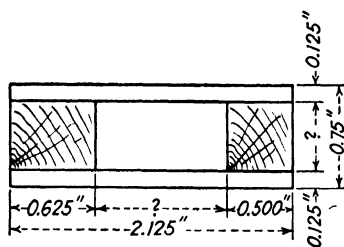

Fig. 296.
7. Find the missing dimension of the beam shown in Fig. 296.